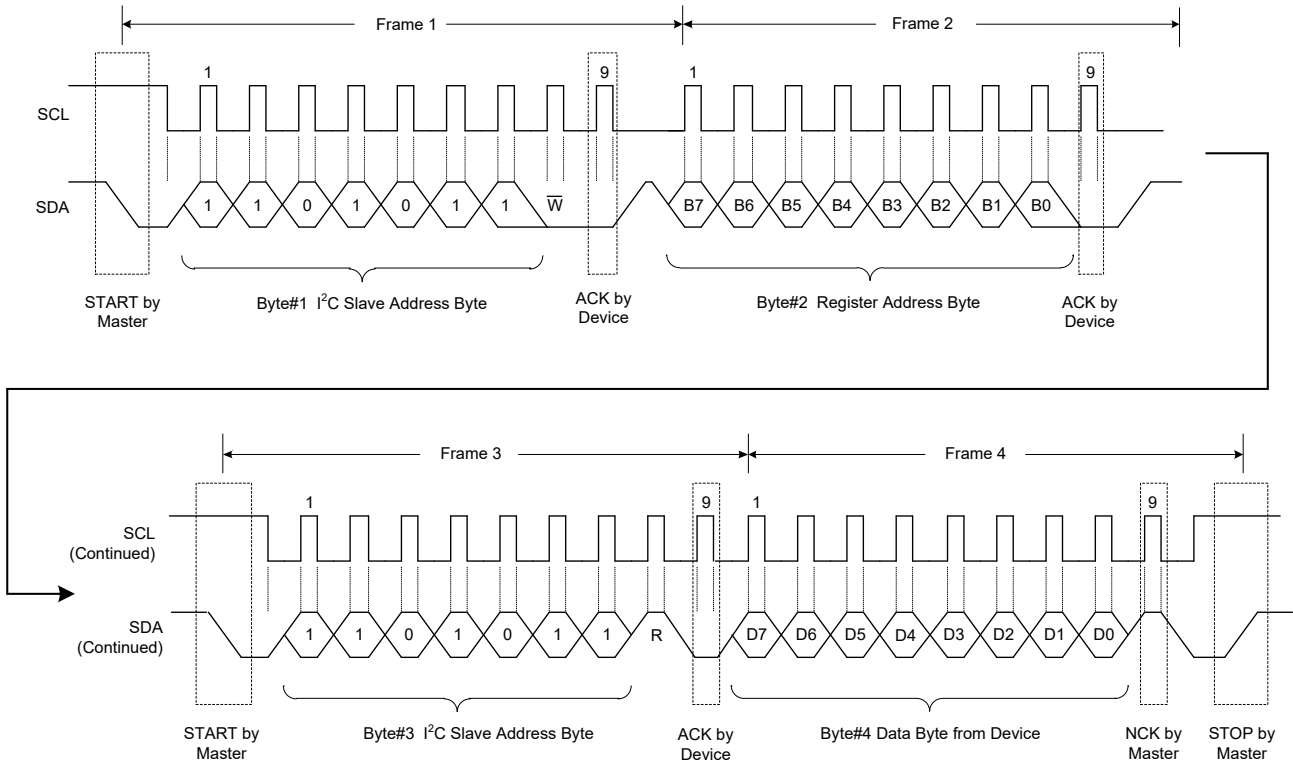

Figure 19. A Single Read Transaction
**READ:** If the master wants to read a single register (Figure 19), it sends a new START condition along with device address with R/ $\bar{W}$  bit = 1. After ACK is received, the master reads the SDA line to receive the content of the register. Master replies with NCK to inform slave that no more data is needed (single read) or it can send an ACK to request for sending the next register content (multi-read). This can continue until an NCK is sent by master. A STOP must be sent by master in any case to end the transaction.